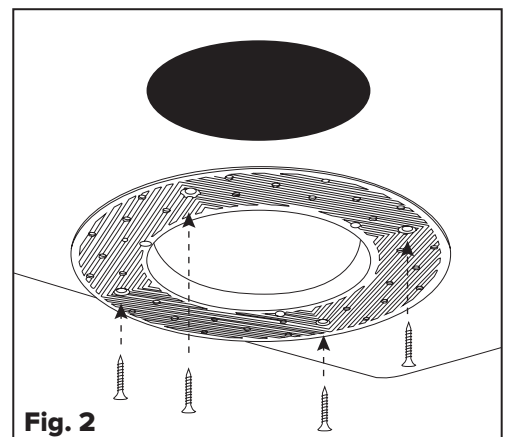

Fig. 2
Step 2: Secure the spackle frame onto the ceiling by using #6 or #8 drywall screws in the four countersunk holes. **Fig. 2**